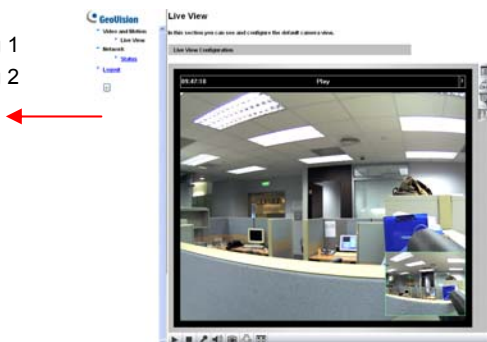

Figure 3-2
- Click **Apply**. A video image, similar to the example on Figure 3-2, is now displayed in your browser.